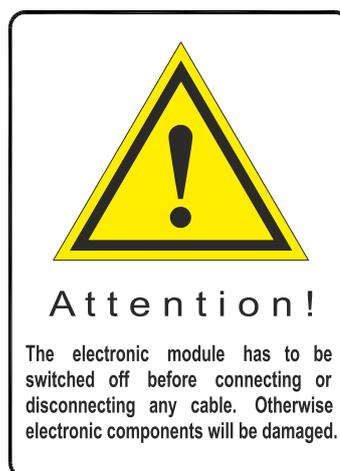

Fig. 3-1
- Switch the SPM controller off before connecting/disconnecting its cable connectors. Disconnecting or connecting the cable connectors during operations may cause damage to the electronic circuit and disable the instrument. A warning label is attached to the SPM controller of the instrument (Fig. 3-1).